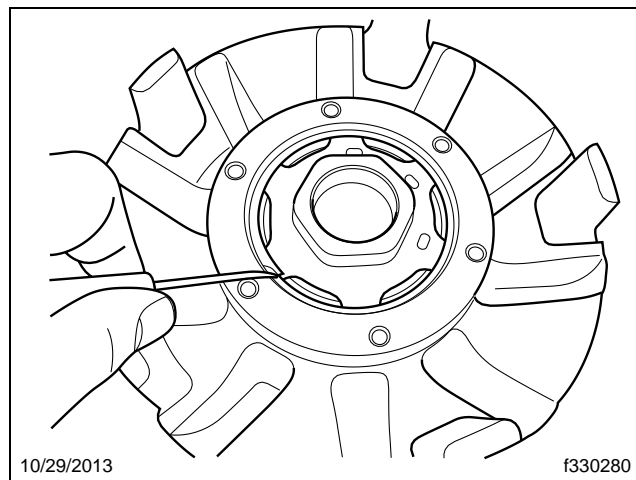

Fig. 5, Removing a Spiral Snap Ring
5. Loosen the spindle nut. As the spindle nut is loosened, it can act as a hub puller. However, if the hub will not come off of the spindle without exceeding 50 lbf-ft (68 N·m) of torque, remove the spiral snap ring (see **Fig. 5**) and then the spindle nut assembly.